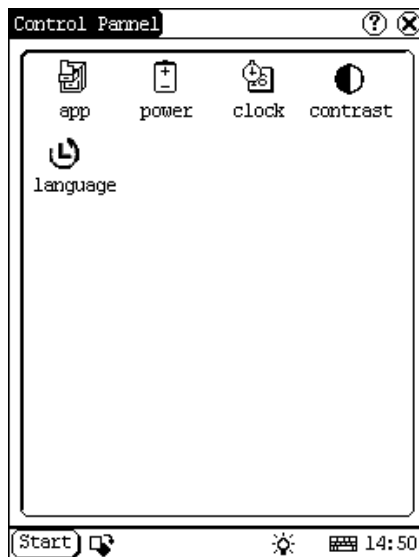

Figure 4-33
- 3) Open the Control Panel interface. (See Figure 4-33)